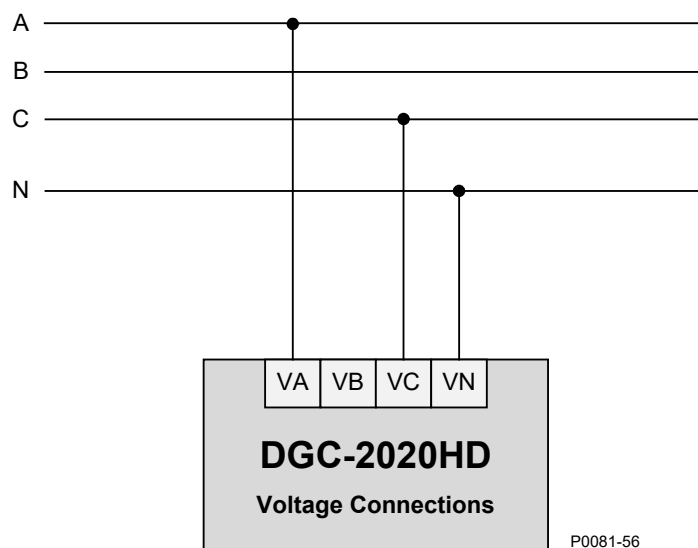

Figure 3-5. Single-Phase A-C Connections
- Single-phase A-C Figure 3-5
Figure 3-5 illustrates typical single-phase A-C connections for all DGC-2020HD bus voltage sensing connections: Generator, Bus 1, and Bus 2. Use the terminal numbers listed below for connecting the desired bus type. Refer to the *Terminals and Connectors* chapter for rear panel terminal numbering.